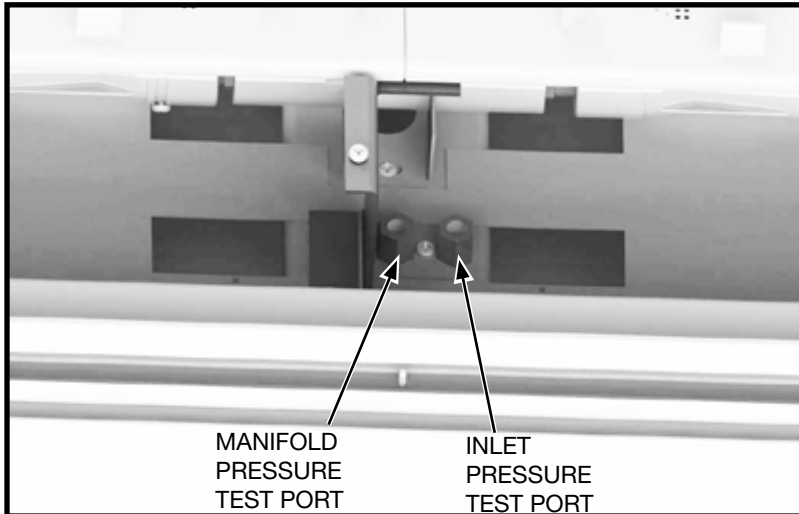

Figure 94: Pressure test ports.
2. Remove the plug from the pressure test port using a 3/16" hex key. The pressure test ports are located next to the center tray leg opposite from the pilot (Figure 94).